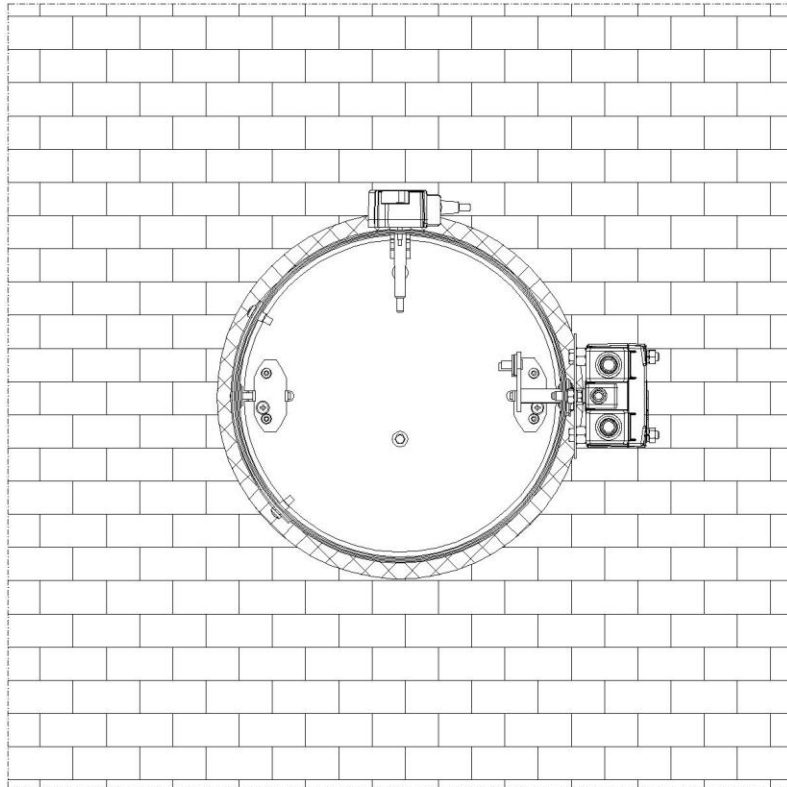

Figure 6. Installation of KTM fire dampers in rigid wall with horizontal rotation axis of baffle
- c. After the mortar has dried (about 48 hours), remove the supports or suspension, check the fire damper correct operation and leave it in open position (installing in KTM damper thermal fuse as shown on the fig. 6).
- After the mortar has dried (about 48 hours), remove the supports or suspensions, check the fire damper correct operation and leave it in open position (installing in KTM damper thermal fuse as shown on the fig. 6).